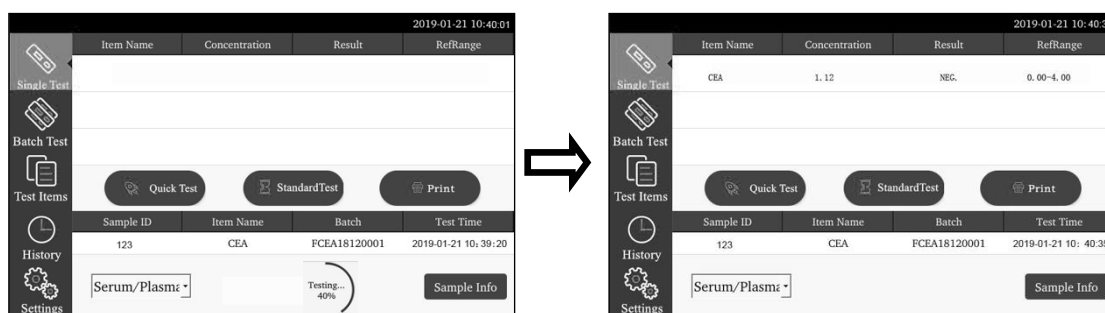

Fig 45
Step 6: The results will be displayed in the lower middle of the screen when testing is completed. (Ref Fig 45)